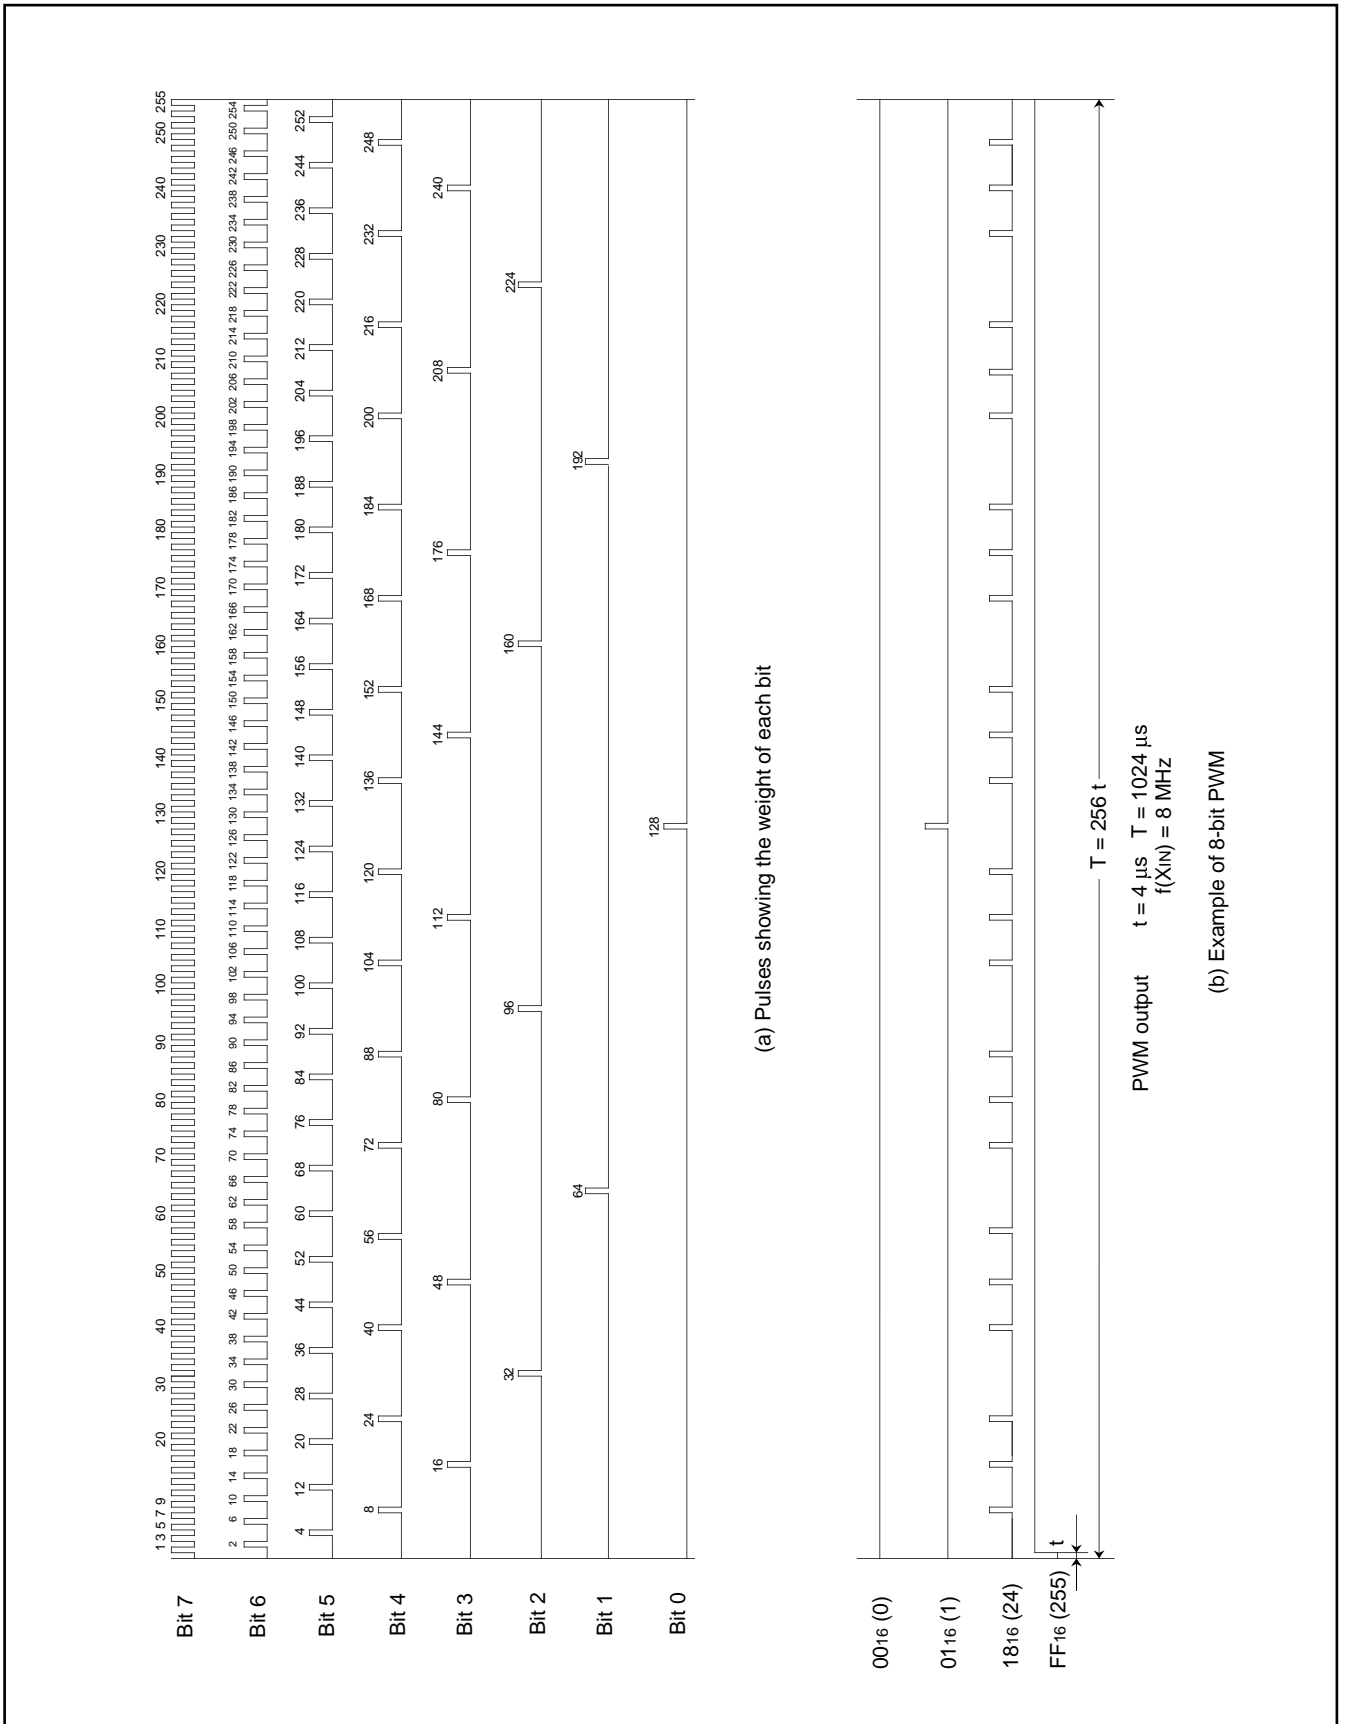

Fig. 14. 8-bit PWM timing
Figure 14 shows the 8-bit PWM timing. One cycle (T) is composed of 256 ( $2^8$ ) segments. The 8 kinds of pulses relative to the weight of each bit (bits 0 to 7) are output inside the circuit during 1 cycle. Refer to Figure 14 (a). The 8-bit PWM outputs waveform which is the logical sum (OR) of pulses corresponding to the contents of bits 0 to 7 of the 8-bit PWM register. Several examples are shown in Figure 14 (b). 256 kinds of output ("H" level area: 0/256 to 255/256) are selected by changing the contents of the PWM register. A length of entirely "H" output cannot be output, i.e. 256/256.